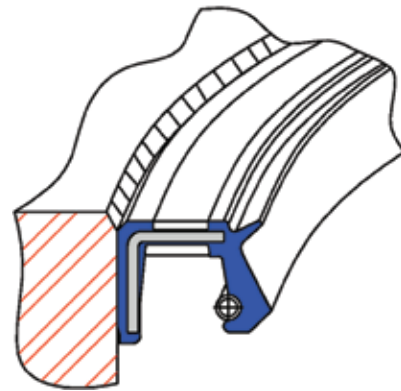

Fig. 2
3. Tool chatter on chamfer surface (Fig. 2)
2. Improper axial location of seal (Fig. 2)
2. Dished heel face caused by improper tool (Fig. 2)